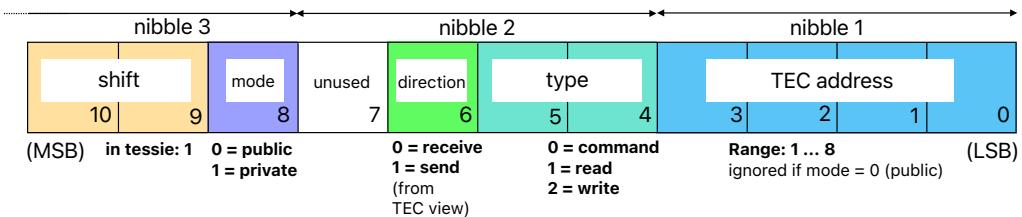

Figure 3: The CAN ID used in the coldbox's CAN bus.
Communication in the CAN bus proceeds through the transfer of frames, consisting (among others) of an ID (identifier), specifier of the data length (in our system: 0, 1, or 5), and the data. Any connected device can transmit data when the bus is free. All connected devices see all transmissions and decide whether or not to accept it, based on the board identifier and one specific bit in the ID. The ID consists of 11 bits illustrated in Fig. 3. Starting at
- The  $25x$  frames correspond to TEC  $x$  providing register readout, with the register number given in the first data byte (ranging from  $0x00$  to  $0x14$ , as provided in Table 2). The digits  $25$  arise from the `shift bit` and `(send|read)`, respectively (cf. Fig. 3).
- Writing to the TEC registers would show up as  $32x$  frames. The digits  $32$  arise from the `(shift bit|private)` and `write`, respectively (cf. Fig. 3).